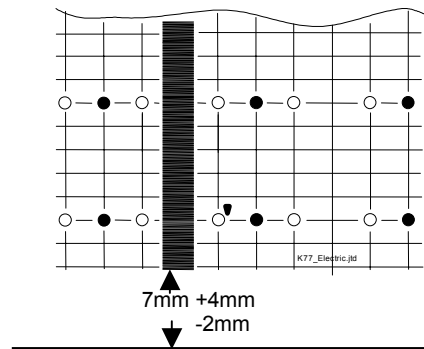

Figure 3 Trail Edge Margin
10. (Figure 3) The average Image Length/Trail Edge Margin of the multiple prints should be 7mm +4mm -2mm.